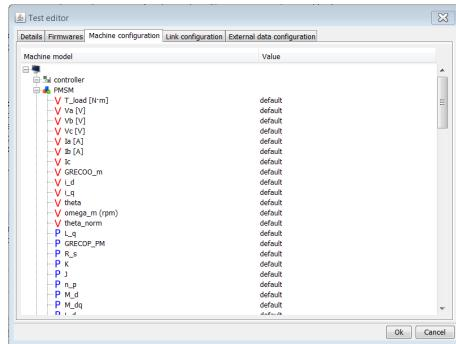

Figure 6.8: Click Create new Test to add a new Test in the Test Sequence.
- *Details*, , is shown in Figure 6.8;